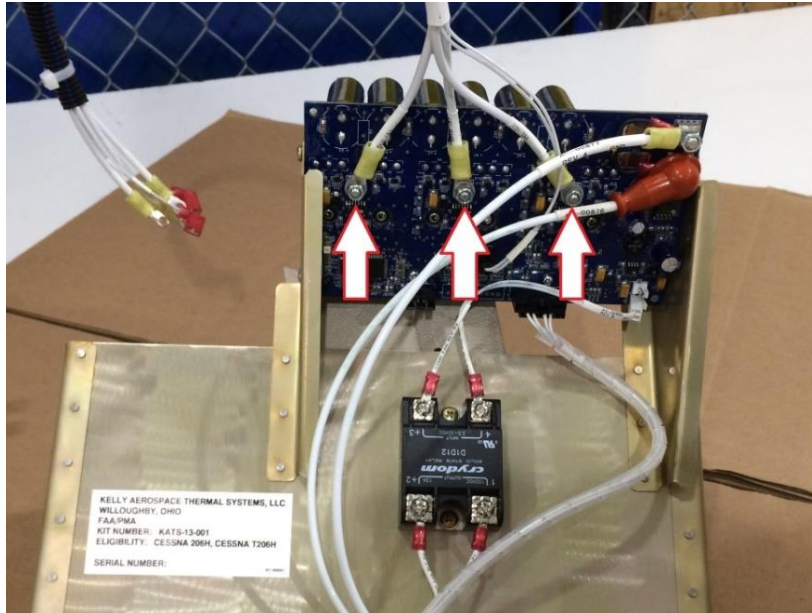
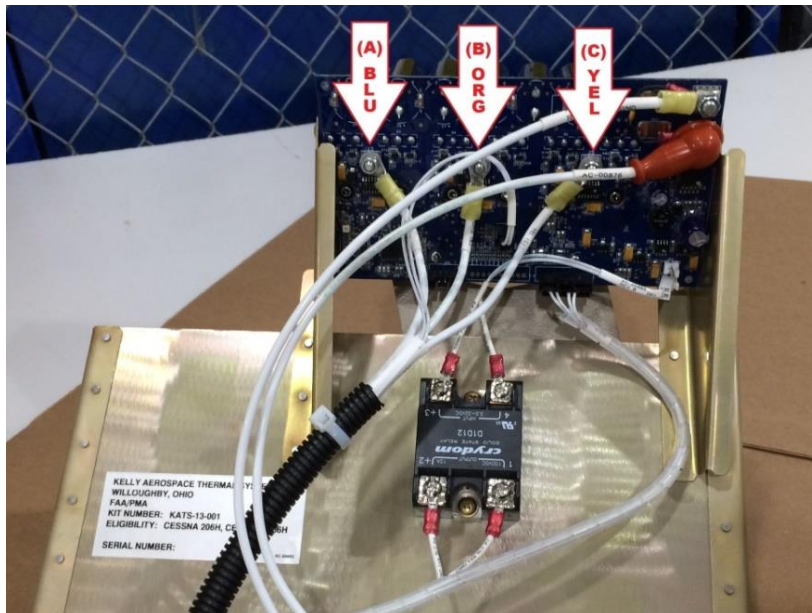

Figure 4 - Incorrect Wire Routing
Figure 5 - Correct Wire Routing
- D. If the terminals for the controller are orientated away from the Waterdam as shown in Figure 4, they must be disconnected and re-connected routed towards the Waterdam as shown in Figure 5. Note: Early versions of the wire harness were color coded Blue, Orange and Yellow; newer versions of the wire harness are all white (as shown in the figures below) but are color labeled. Reference AC-01290 Cessna 206 AC Schematic CB-2.